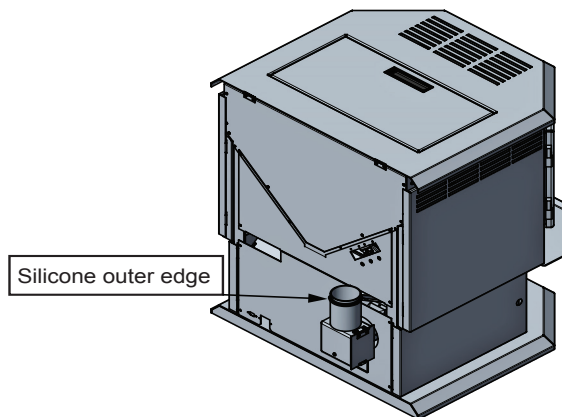

Figure 4
- Put a 1/4 inch bead of silicone on the outer edge of the Vent Adapter exhaust outlet (C1) (Figure 4). Following venting manufacturing instructions, install venting to Vent Adapter (C1). (Note: Appliance adapter from venting manufacture may be required.) Do not apply silicone inside appliance exhaust outlet.